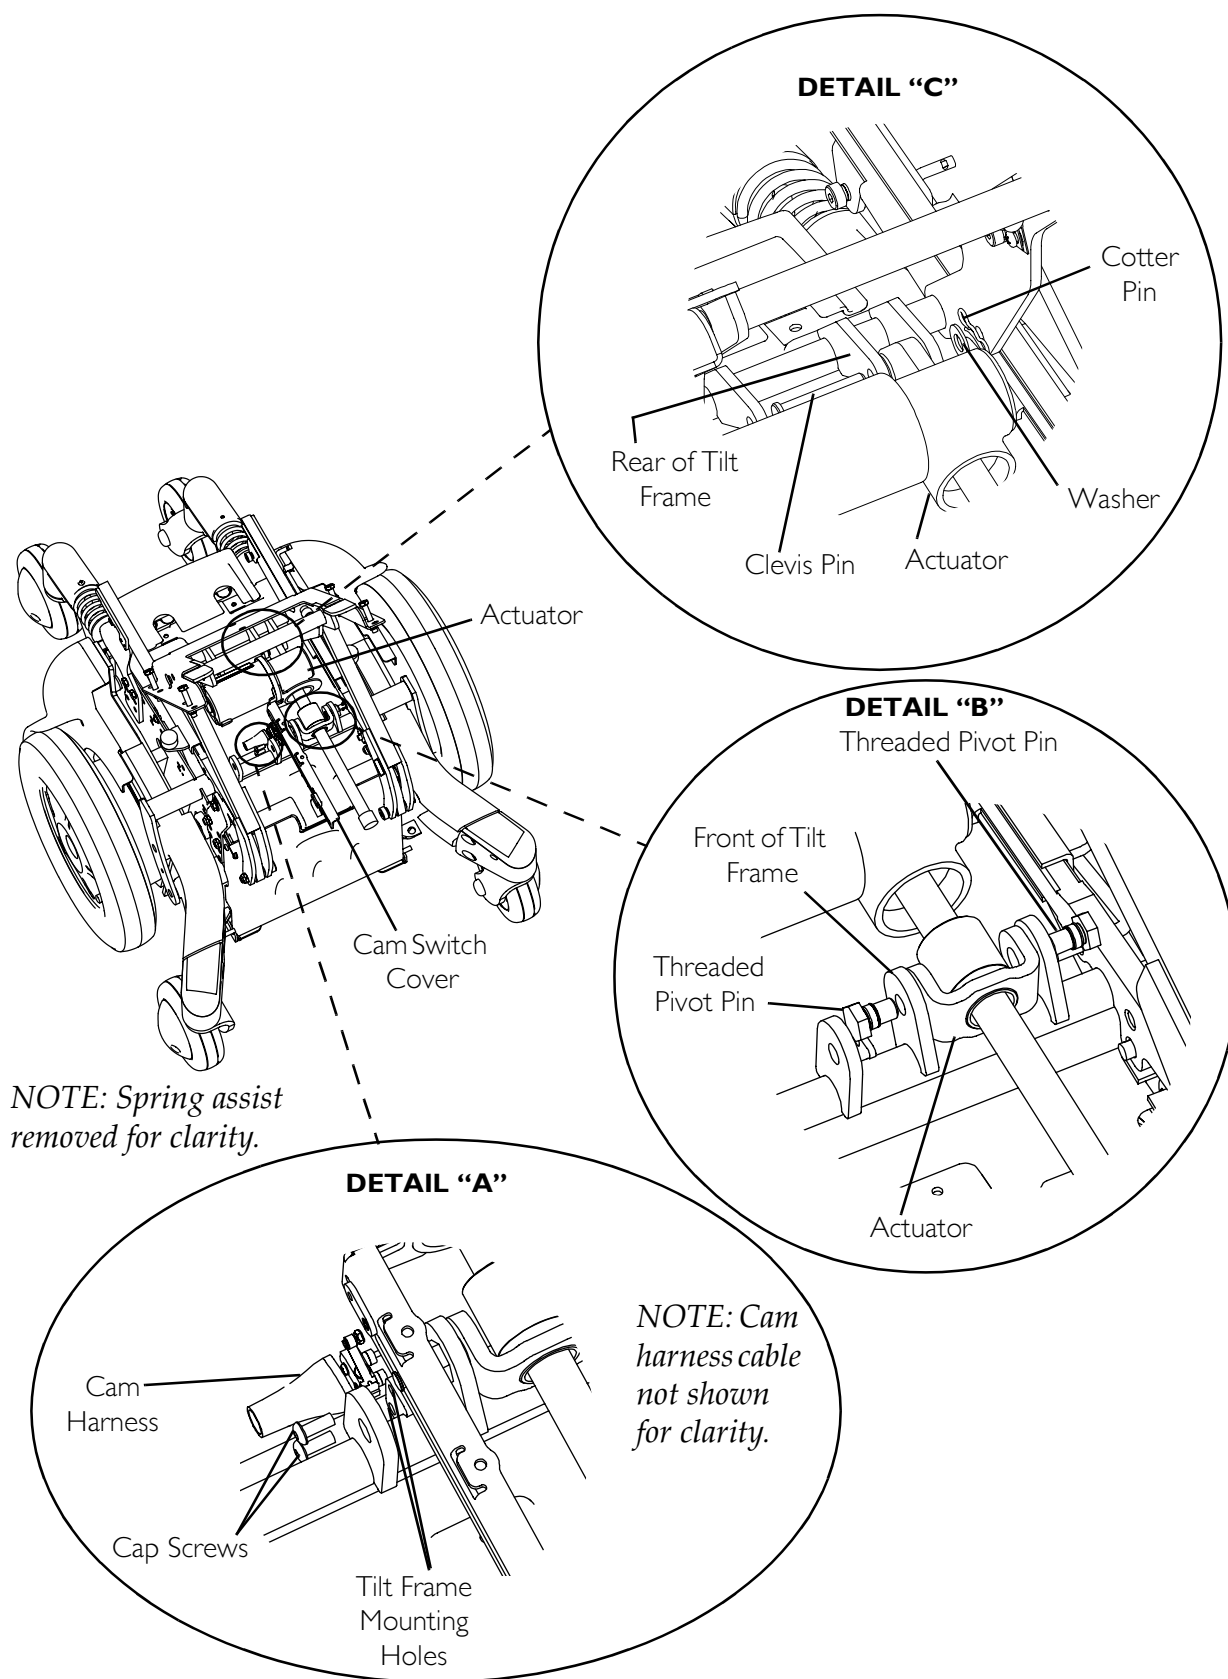

FIGURE 10.6 Removing the Tilt Actuator/Installing the Tilt Actuator
NOTE: For this procedure, refer to FIGURE 10.6 on page 112.
2. Position the new actuator as shown in FIGURE 10.6.
8. Position the cam switch cover onto the actuator as shown in FIGURE 10.6.